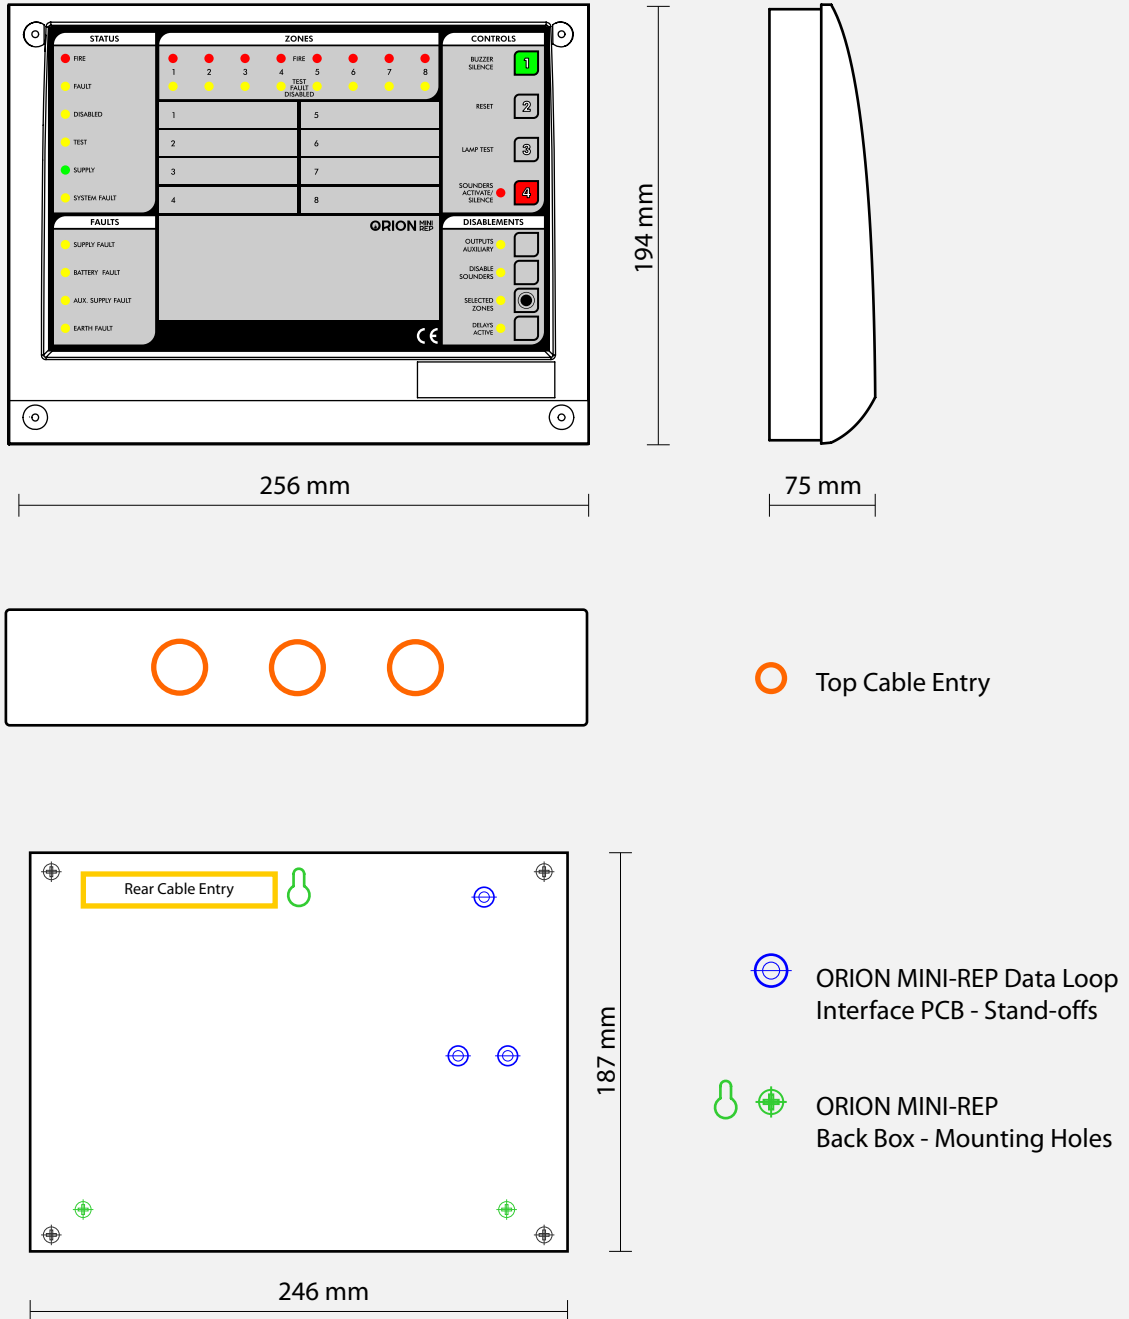

Figure 1: ORION MINI-REP - Installation
- c) Fix unit's back box in required mounting position using the mounting holes provided. See Figure 1